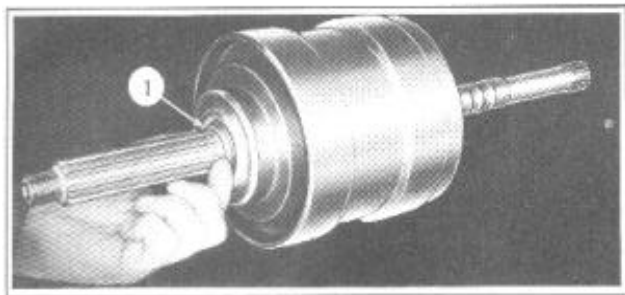

FIGURE 99
8. Remove the rear bearing spacer (1), Figure 99.